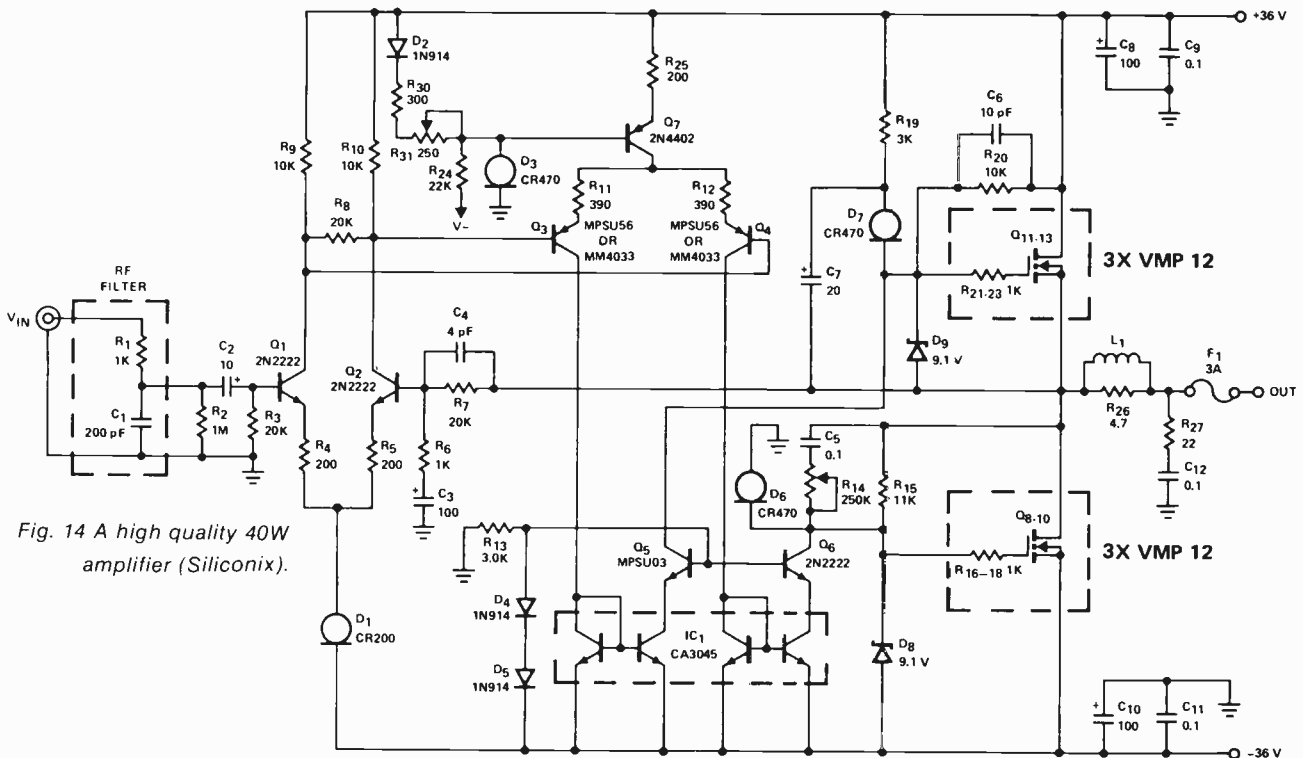

Fig. 14 A high quality 40W amplifier (Siliconix).
In Fig. 14 we have a high quality power amplifier designed by Lee Shaeffer of Siliconix Inc. (5) and described in their application notes. Output current capability is increased by using three VMP12's in parallel, providing for 6 amp current, 75 Watt dissipation and optimizing the load at 8 ohms. Q11-13 operate as a source follower, while Q8-10 form a quasi